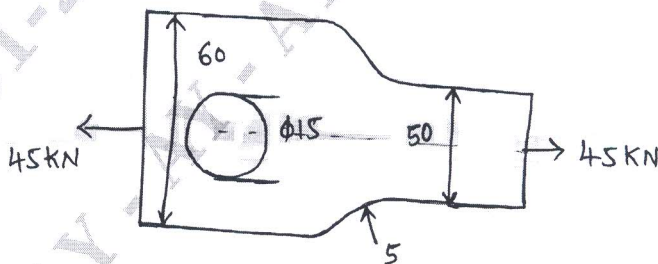

Fig Q3(b)
b. A SAE 1025 water quenched plate ($\sigma_y = 400\text{MPa}$) of rectangular cross section shown in Fig Q3(b). is subjected to tensile load of 45kN Take $\text{FOS} = 2.5$. Find the thickness of the plate?